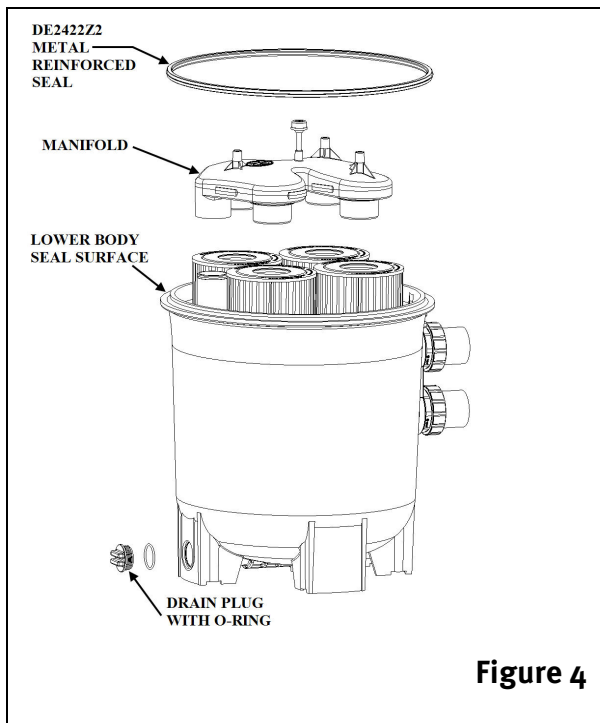

Figure 4
2. Close filter drain. NOTE: Filter plug requires an o-ring seal. (See Fig 4)
4. Remove filter drain plug (Fig 4) and drain water from filter.
1. Remove the top Manifold, which is exposed when the upper filter body is removed. (Fig 4)
2. With a clean cloth, wipe the lower filter body seal surface and clean seal of all dirt and debris. (Fig 4) Do not use a solvent.
1. Place the metal reinforced seal on lower filter body. (Fig 4) Place upper filter body on metal reinforced seal and lower filter body in a position which allows all operation and safety labels to be clearly visible and the upper filter body to be centered on the lower filter body. Press down firmly and evenly on the upper filter body to seat the seal. (Fig 7)